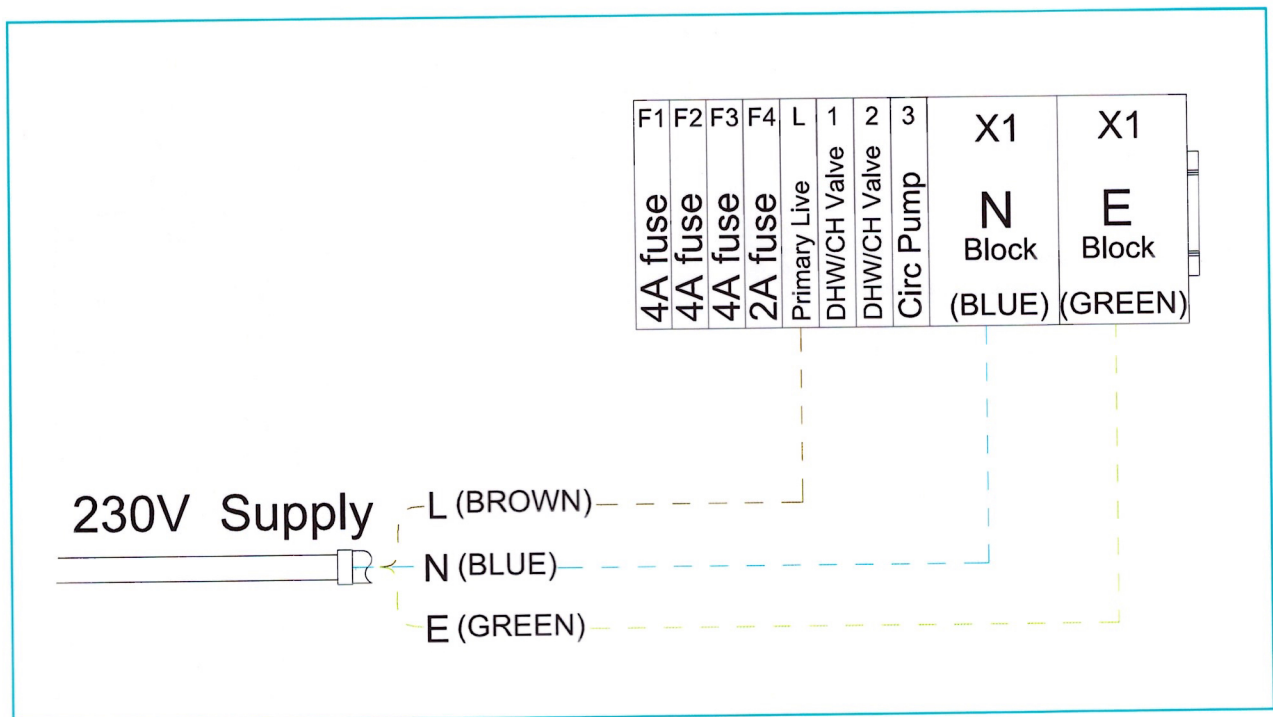

Figure 7: Primary Electrical Connections, Live, Neutral & Earth
All wiring must be carried out by a suitably qualified person and must be fully compliant with the current release of Building & Wiring Regulations. For general wiring configuration see Figure 7.
- Primary connections, 5.9.1. A three core cable must be connected between the supply isolator and the cylinder connector block. See Figure 7.
In both retro fit and new build installations, a 3 core cable must be taken from the isolator [typically a 16Amp double pole fused spur] and connected to the primary connector block as illustrated in Figure 7.
- Neutral and Earth wires must be connected to the blue and green/yellow connectors respectively, as per Figure 7.